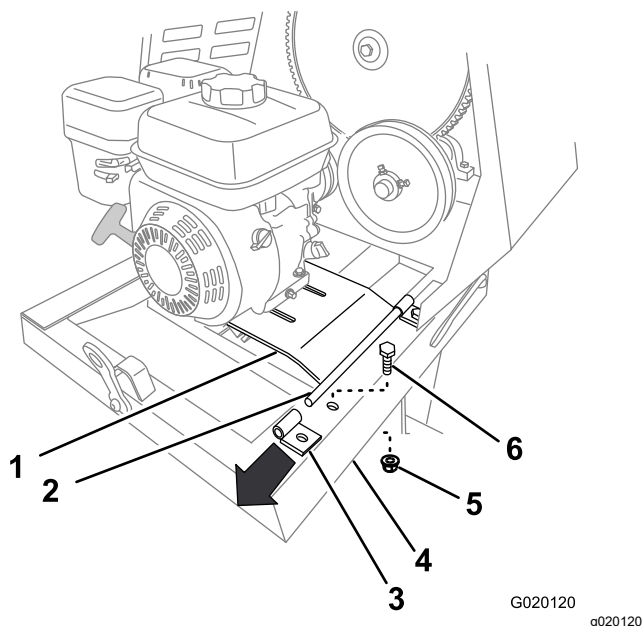

Figure 50
8. Remove the bolt and nut that secure the rear bracket for the engine deck hinge to the frame of the machine (Figure 50).
9. Lift up the rear edge of the engine deck and remove the hinge bracket (Figure 50).
6. Secure the rear bracket to the frame of the machine using the bolt and nut (Figure 50) removed in step 8 of Removing the Engine (page 35).